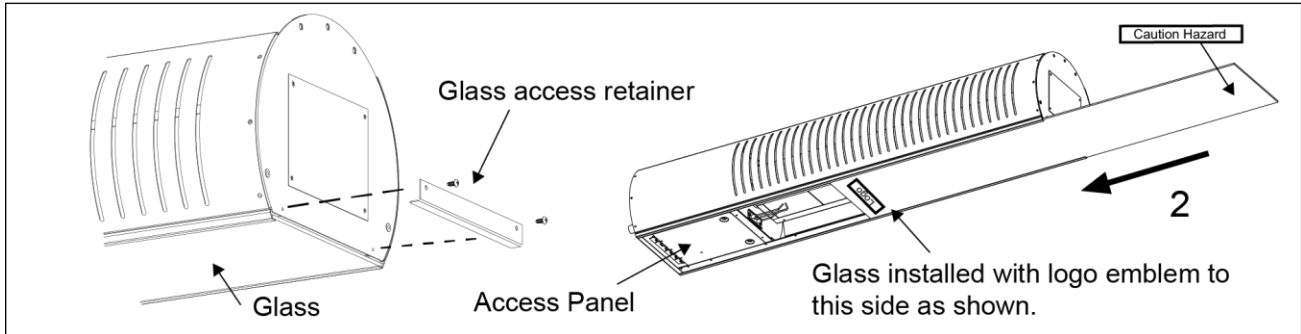

Figure 1
4. Carefully slide the glass panel 2 from in the retainer rails and away from heater until the access door is exposed. See Figure 1.